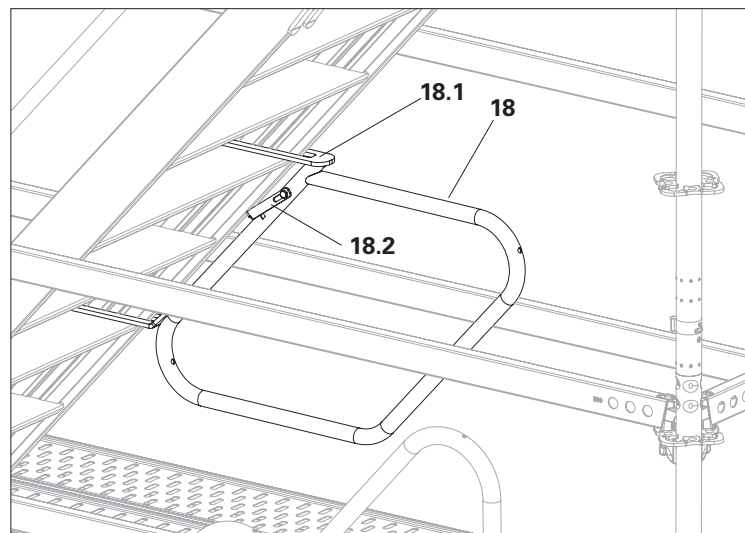

Fig. A4.02a
4. From the back of the stair, fit Stair Guardrail UAH-2 (**18**) with upper suspension (**18.1**) onto the 5th step from the top. Swing out the locking pin (**18.2**) and pull it down between the stair tower and the stair guardrail. (Fig. A4.02a)